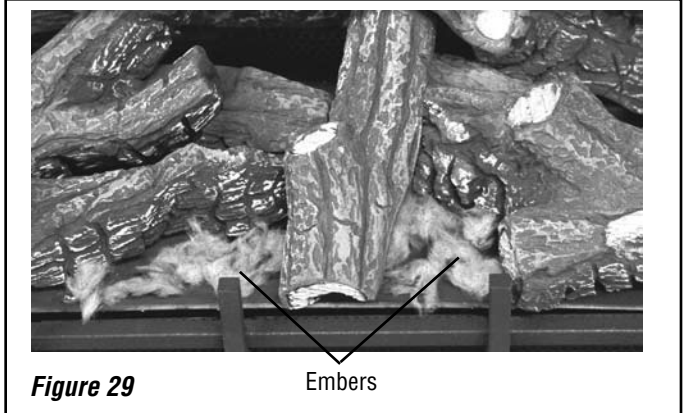

Figure 29 Embers
8. Place the glowing embers on the burner as shown in **Figure 29**.
IMPORTANT: The quantity and placement of the ember material can affect insert performance therefore it is very important that it be placed as shown in **Figure 29**.